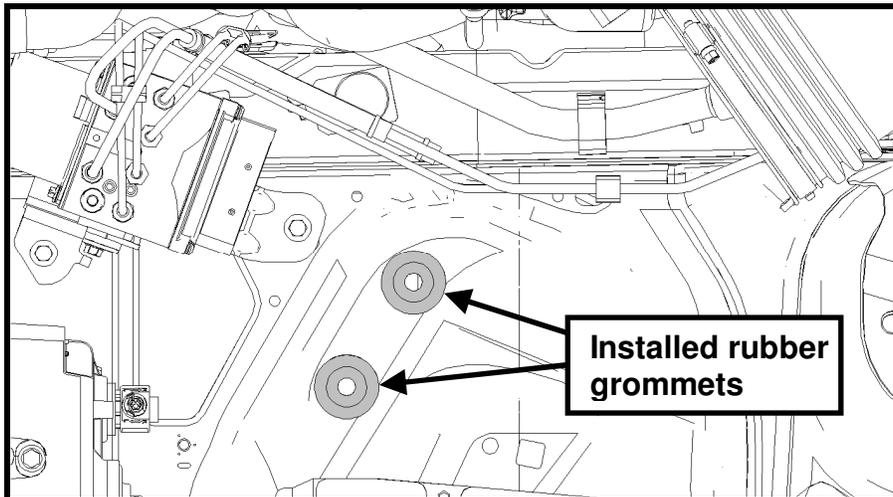

Fig. 10
**STEP 7:** Install the rubber grommets (previously removed from the factory airbox) into the holes located beneath the airbox, rearward of the ABS module (See Fig. 10).